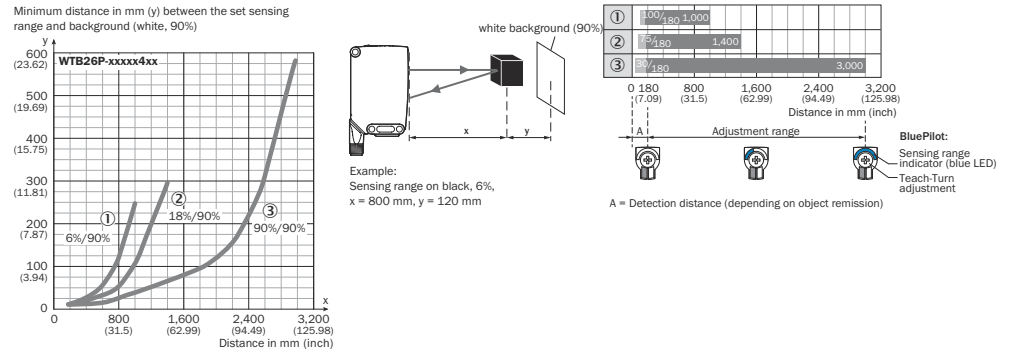

Figure 5: Characteristic line 2, WTB26 P-xxxx4 xx, red light
Check the application conditions: Adjust the sensing range and distance to the object or background as well as the remission capability of the object according to the corresponding diagram [see figures 5 and 7] (x = sensing range, y = minimum distance between set sensing range and background (white, 90%)) Remission: 6% = black ①, 18% = gray ②, 90% = white ③ (referring to standard white as per DIN 5033). We recommend that the adjustment be performed with an object of low remission. The minimum distance (= y) for the background suppression can be determined from the diagram [figure 4 ①] as follows: